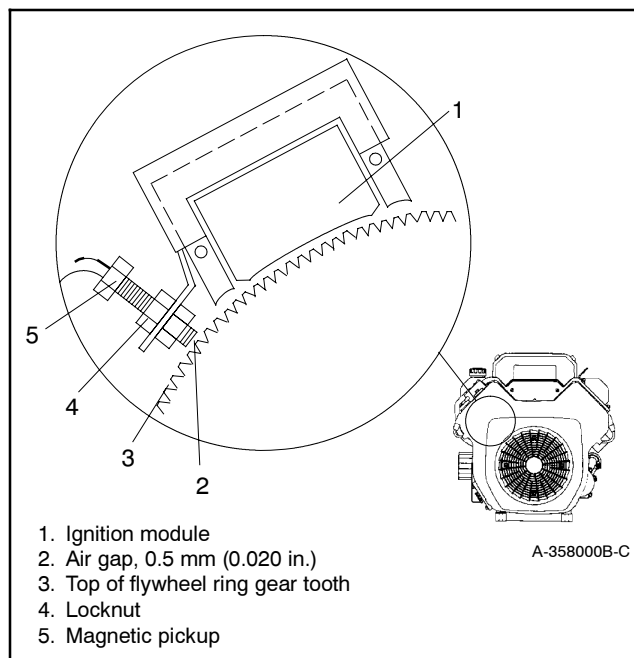

Figure 5-25 Magnetic Pickup Air Gap
5. If the voltmeter displays less than 1.75 volts AC, check the air gap as described in the following steps before replacing the sensor. Verify that the magnetic pickup air gap is 0.5 mm (0.020 in.). Measure the air gap at 3 or 4 places to get an accurate reading. See Figure 5-25.
- d. Adjust the air gap, if necessary, by loosening the locknut and turning the pickup. See Figure 5-25.